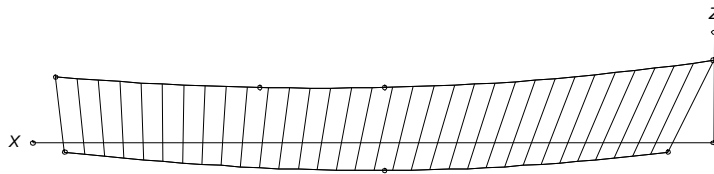

Fig. 5. Rowboat model with the side surface added; <Y> view.
- 4 **Click 'OK'** to accept the new object (Fig. 5).